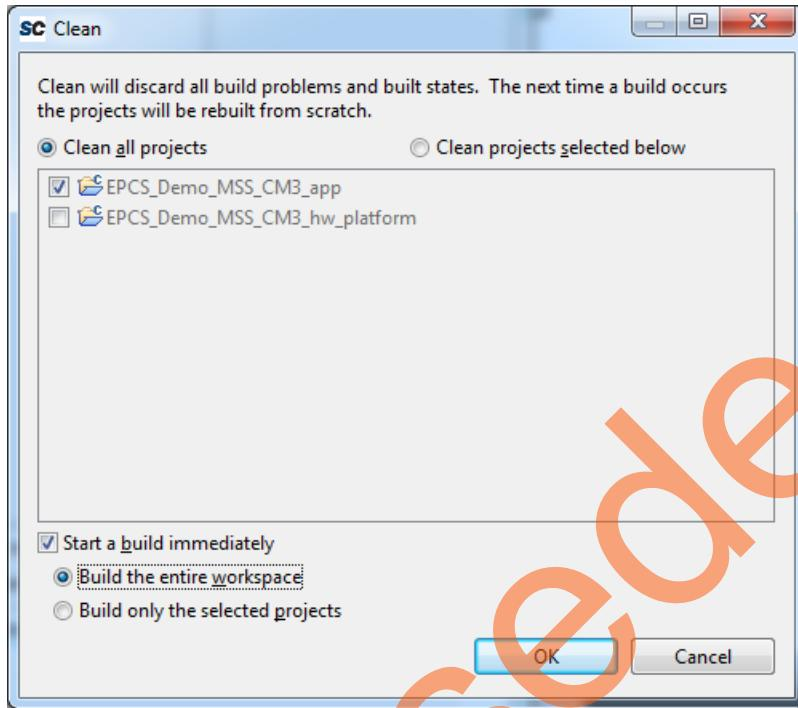

Figure 58 • Clean and Build SoftConsole Project
11. The **Clean** window is displayed. Click **OK** to build the SoftConsole projects as shown in Figure 58.